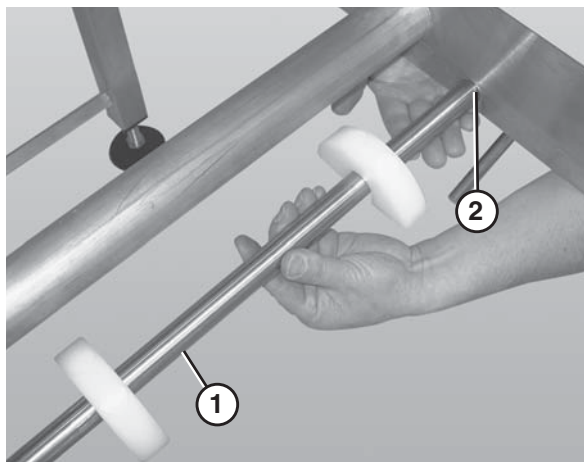

Figure 31
2. Slide the return shaft (**Figure 31, item 1**) up and through the large slot (**Figure 31, item 2**) in the frame (picture shown without the belt or wear strips).
3. Push up on the return shaft (**Figure 31, item 1**) and slide the notched end of the shaft through the small slot on the opposite side of the frame.